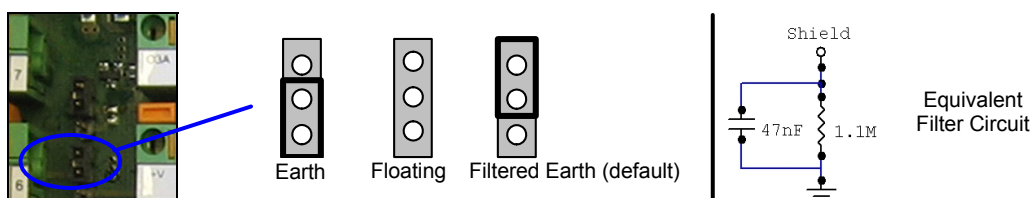

Figure 7– Source Shield Jumper Settings
- Connect the reading device chassis to earth ground through the jumper, (default setting, see Figure 7).